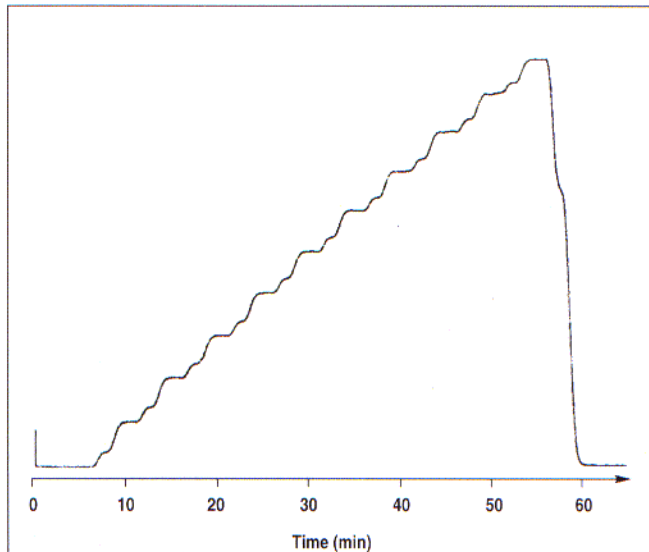

FIGURE 4: Unacceptable step test showing small secondary steps between each major step.
Here's another problem encountered by a reader (1) during a proportioning step test. He ran a test similar to the one above to check proportioning accuracy. Figure 4 shows the test results. Notice the extra small steps between each of the major steps in the plot. After the user tried many of the procedures described above, and even replaced the detector, the problem persisted. The retention, resolution, and precision all were acceptable for normal assays, which ruled out a leak or excessive extracolumn volume. To isolate the problem source further, he bypassed the autosampler and connected the pump directly to the detector. The trace then appeared normal, without the secondary steps. This indicated that the problem was associated with the autosampler, not the pumping system.